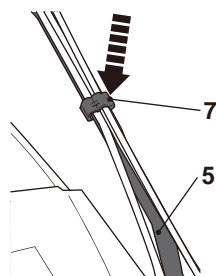

Fig. 6
8. Fix the wires (4) with the wire clip (7) to the lower handle bar (5) (Fig. 6).